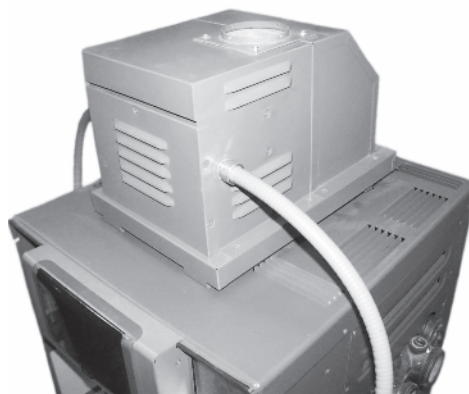

Fig. 9
9. Place the Power Vent on top of the heater. See Fig. 9.